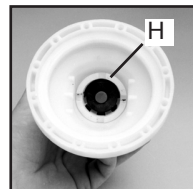
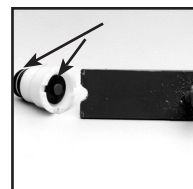

Figure 5.
Figure 6.
6. The valve assy. (H) is removed using a locally made tool. Remove red valve plate retaining pin using needle nose pliers, then insert tool into slots. See Figure 5. Use a screwdriver to rotate tool counter clockwise. Figure 6.
7. The valve plates and O-rings can now be replaced. The bottom valve plate is secured into place with the red retaining pin. Push pin into place using needle nose pliers. Figure 6.